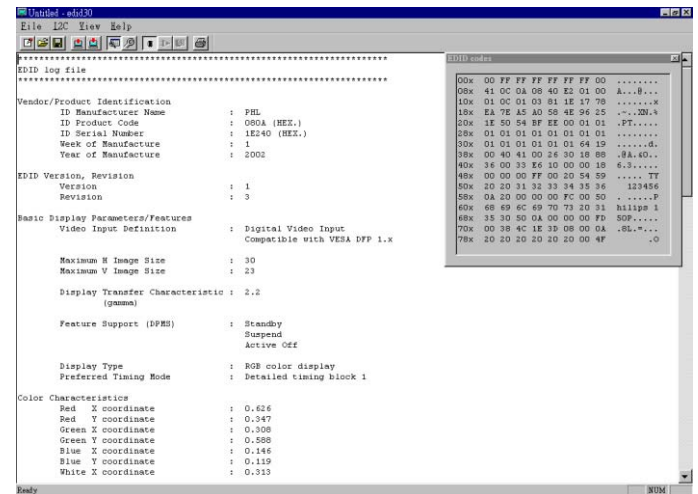

Fig. 13
- Click icon (Read EDID function) to read DDC EDID data from monitor. The EDID codes will display on screen as shown in Fig. 13.